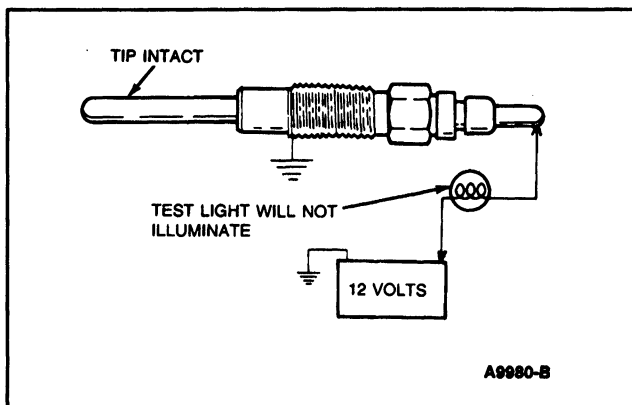

Figure 21: Electrically Open
- There is no visible damage, but glow plug is electrically open (Figure 21). This indicates an internal heating element failure.